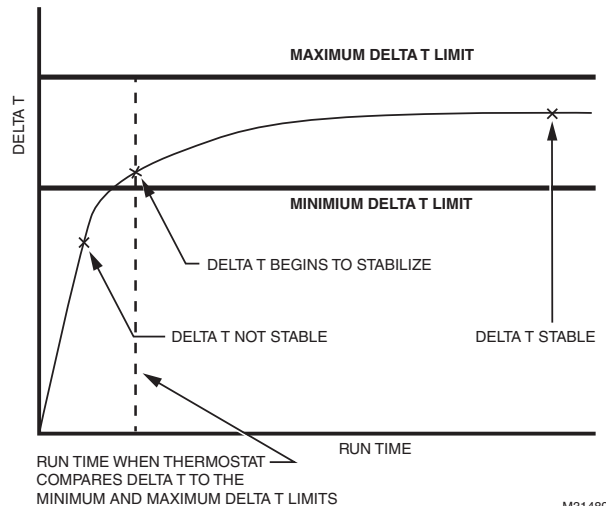

Fig. 147.
2. In gas or oil forced air systems, Delta T will continue to rise for several minutes even after Delta T begins to stabilize. Be sure the Maximum Delta T Limit is set higher than the expected stable Delta T. See Fig. 147.